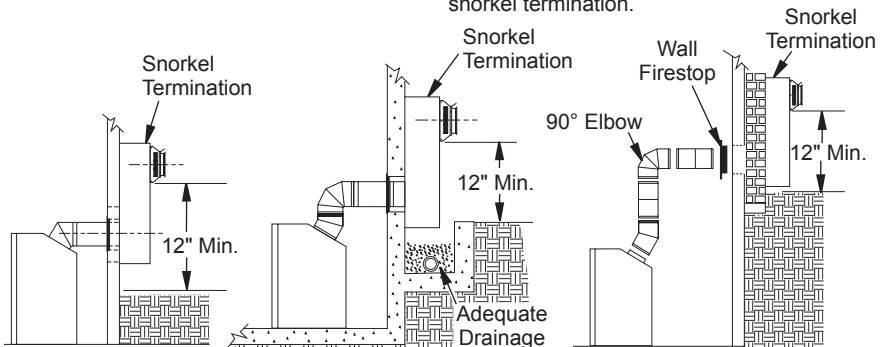

Figure 16 - Snorkel Termination Configurations for Below Ground Installation
- Snorkel terminations are required when minimum clearance to grade cannot be met (see Figure 16 on page 12).
Snorkel terminations are available for installations requiring a vertical rise on exterior of building. If installing snorkel termination below grade, you must provide proper drainage to prevent water from entering snorkel termination (see Figure 16). Do not back fill around snorkel termination.